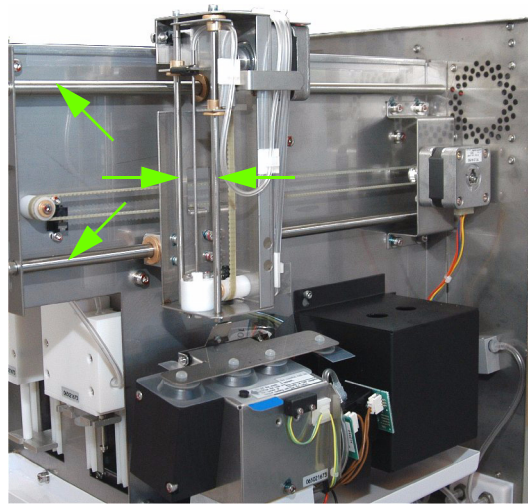

Fig.17: axes
- ◆ Clean the carriage and the needle carriage axes (See “Fig.17: axes, page 11”).